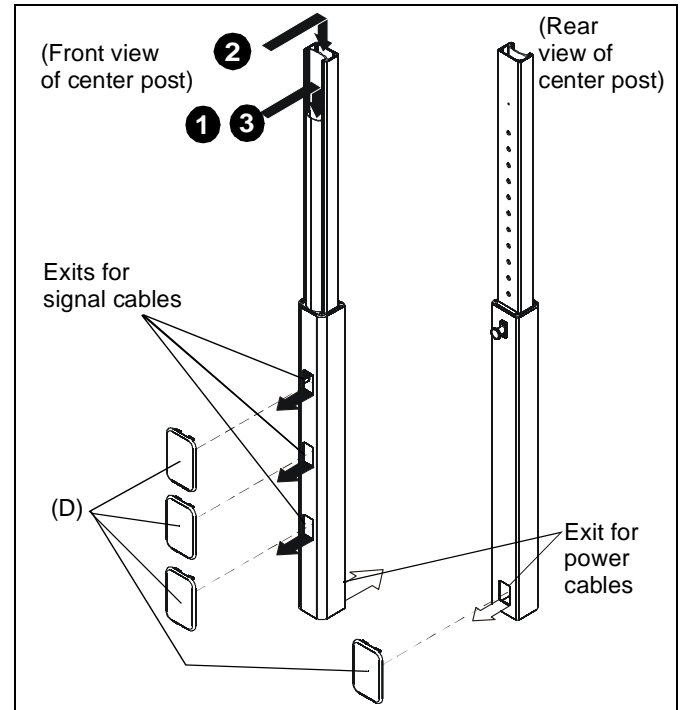

Figure 12
1. Signal cables can be run down the front flap of the center post and out the front of the post at any of the openings. (See Figure 12)
2. The display power cord can be run through the top and down through the post to exit out the back. (See Figure 12)
3. Any accessory power cords can be run through the front and down through the post to exit out the back. (See Figure 12)
4. Install the snap-on covers (D) to any opening that is not being used. (See Figure 12)